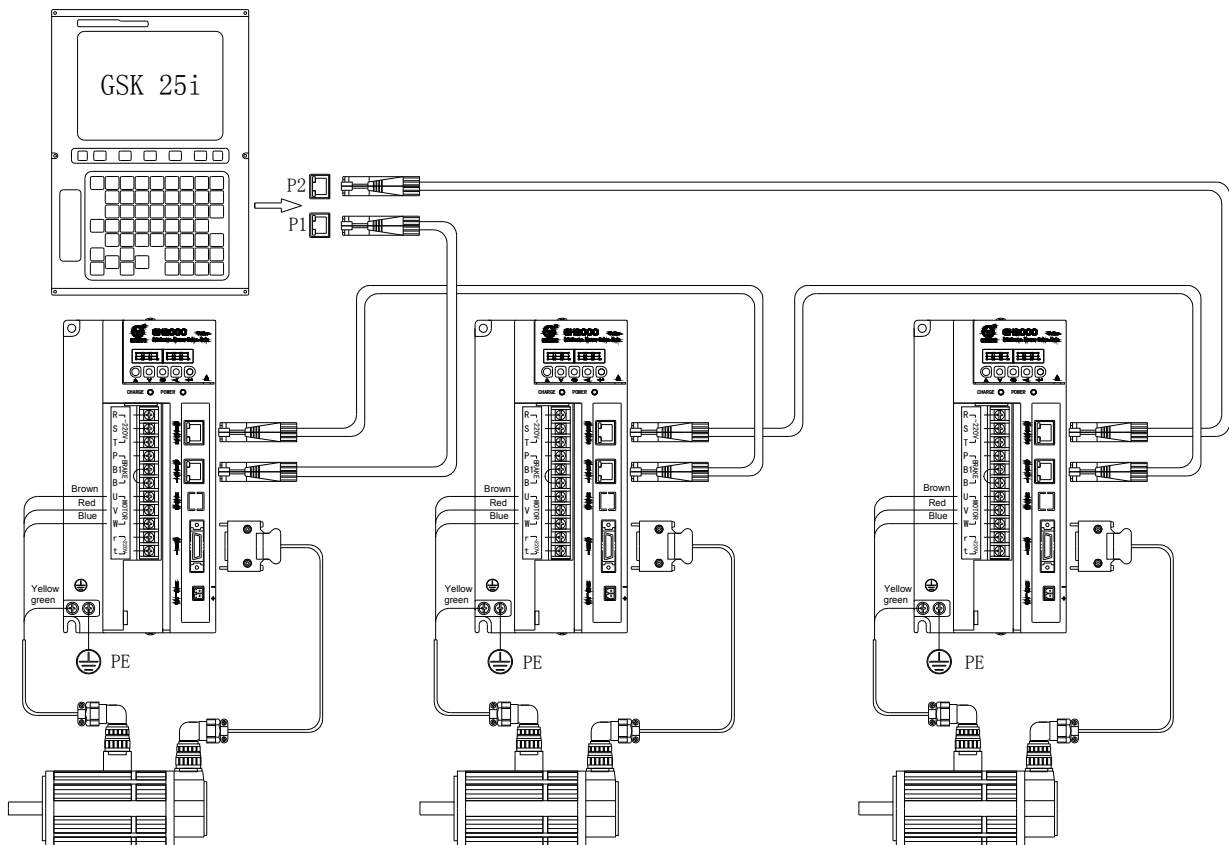

Fig. 3-3 GH series topological structure diagram between drive unit and system
GH series drive unit adopts GSK-Link industry Ethernet bus communication method, which can be connected between drive units, drive unit and CNC system by the net wire; the maximum connection is up to 254 nodes. The communication period data only can be transited between the main station (CNC system) and servo slaver one; the non-period data can be performed among any stations. The GSK-Link bus employs double-ring topological structure; the bus topology is shown as Fig. 3-3. The structure of communication module both the main and slaver stations are absolute same.
2. The connection of the I/O module does not mark in the Fig. 3-3 connection diagram. The method of connection diagram that adds the I/O module is same to the drive unit one.
3. Suppose that it is regarded as X/Y/Z in turn from left to right, the Fig. 3-3 shows the single-direction circuit schematic, that is, the CNC system P1 interface communication begins from X axis BUS1, and ends to the Z axis BUS2. In addition, another circuit communication connection can be carried out, namely, the CNC system P1 interface communication starts from X axis BUS1, and ends to the BUS2.